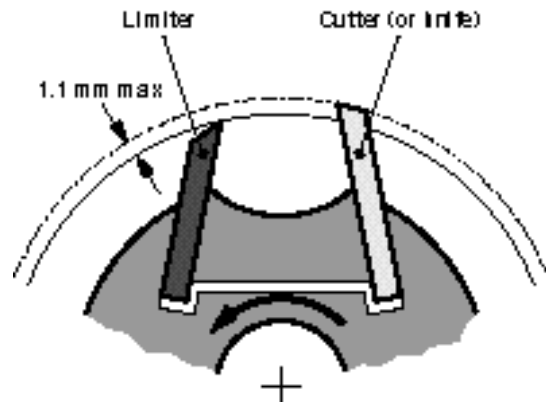
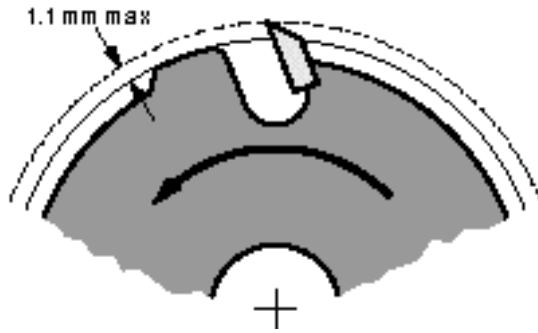

Figure 2 Use of a 'limiter' to achieve limited cutter projection
Figure 3 Tool body designed to permanently incorporate a 'limiter'
- a 'limiter' (also called a deflector or counter knife) which mirrors each cutter (see Figure 2).
Where limiters are used, the amount of cutter projection beyond the corresponding limiter should be restricted to a maximum of 1.1 mm. Exchangeable limiters can be mounted on the tool body (see Figure 2), or the tool body can be shaped in such a way that it permanently incorporates the limiter (see Figure 3). The latter design restricts the range of cutters that can be used on a particular tool body.